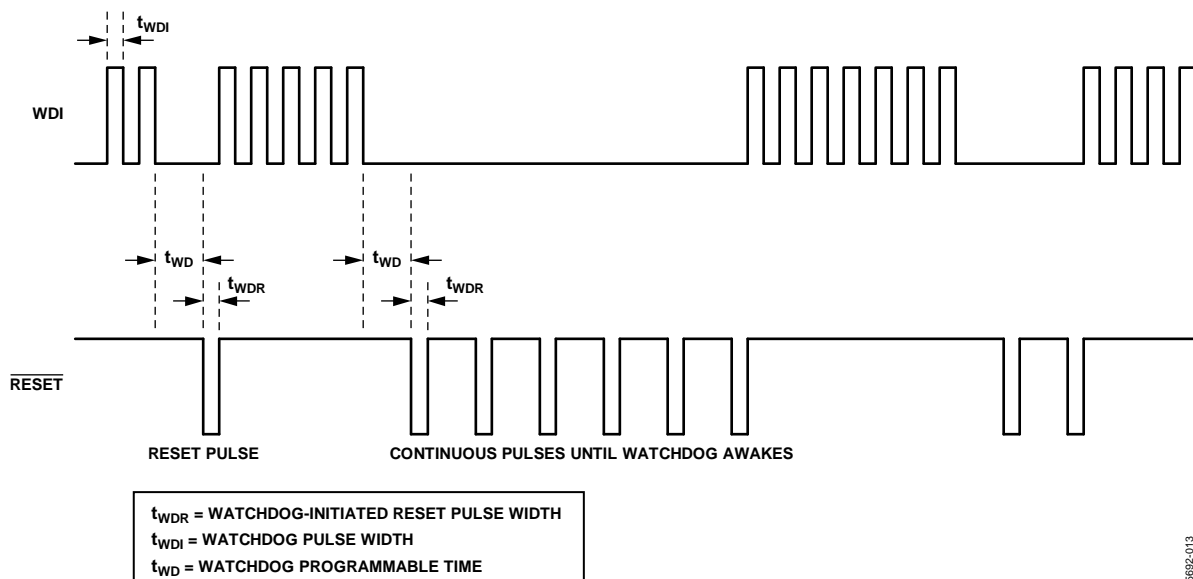

Figure 13. Standard Watchdog—Pulsing Reset Until Watchdog Awakes
In the default standard watchdog mode, if WDI remains either high or low for longer than the timeout period,  $t_{WD}$ , a  $\overline{\text{RESET}}$  pulse is generated in an attempt to allow the system processor to reestablish the WDI signal. The  $\overline{\text{RESET}}$  pulses continue indefinitely until a valid watchdog signal, a rising or falling edge signal at the WDI, is received. The internal watchdog timer clears whenever a reset is asserted. The standard WDI and  $\overline{\text{RESET}}$  timing diagrams are shown in Figure 13.
- When the external monitoring processor cannot issue the necessary WDI signal (see Figure 13 and Figure 14)